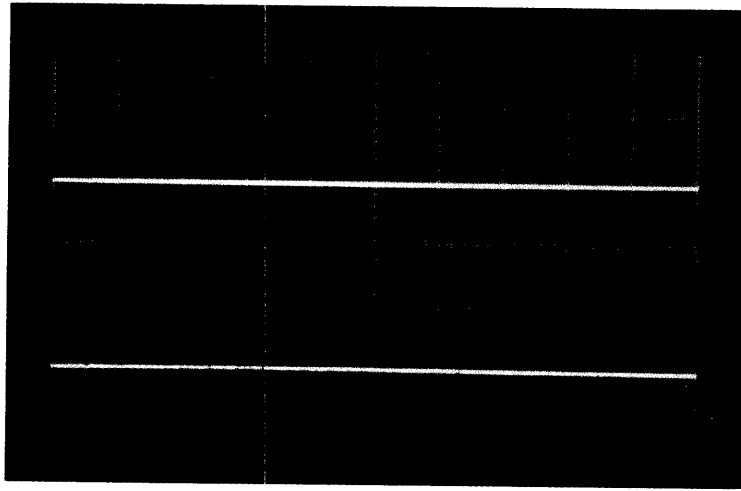

Figure 3-1 Ground Reference
2	Adjust the oscilloscope as follows: <ol style="list-style-type: none"><li>Trigger: Channel 1 only</li><li>Mode: Channel 1</li><li>Channel 1: 5V/Division</li><li>Set ground reference sweep on 1 cm above center horizontal graticule (see Figure 3-1).</li><li>Sweep: 0.5 ms</li></ol>
- g. The oscilloscope should appear as shown in Figure 3-1.
2	The oscilloscope is set as follows: <ul style="list-style-type: none"> <li>a. Trigger: Channel 1 only</li> <li>b. Mode: Channel 2 only</li> <li>c. Channel 1: 2V/cm</li> <li>d. Channel 2: 50 mV/cm</li> <li>e. Channel 2 GND reference: 2 cm below center graticule (see Figure 3-1)</li> <li>f. Current probe terminator to 2 mA/mV</li> <li>g. Sweep: 2 <math>\mu</math>s</li> <li>h. Slope: Positive; Source: Internal</li> <li>i. Attach the current probe to Channel 2.</li> </ul>